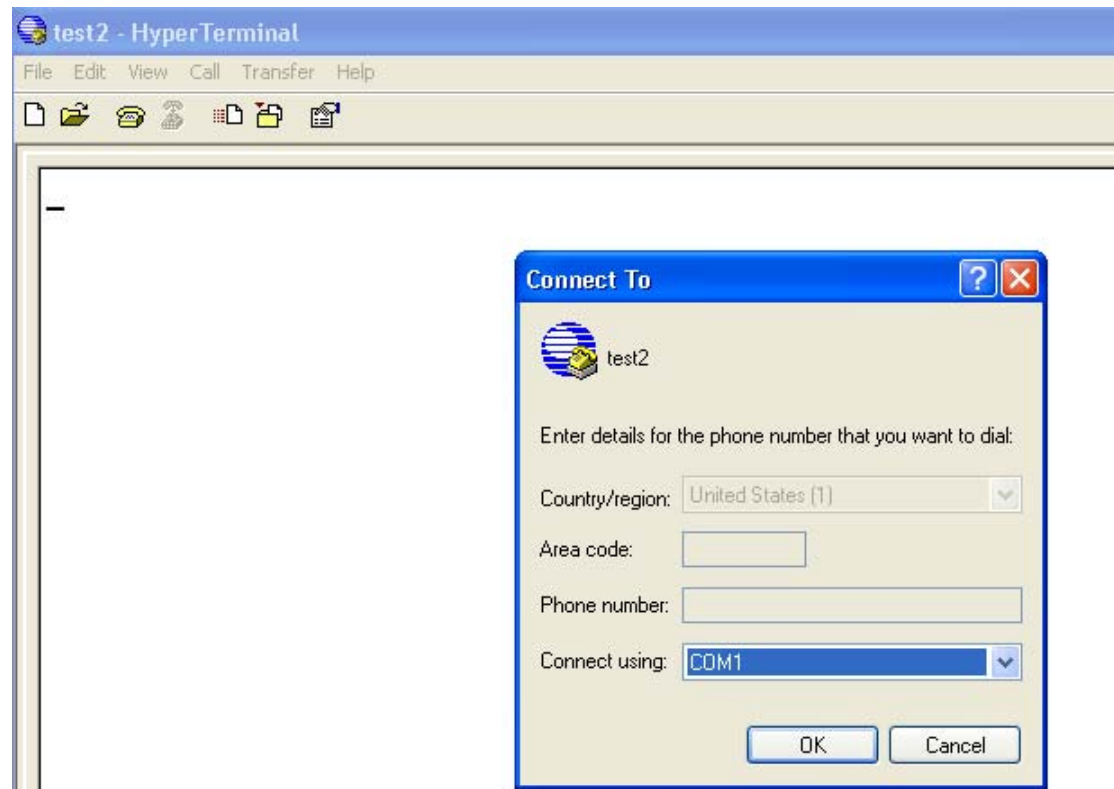

Figure B.2 Connect To Window
4. The Connect To dialog box appears. See Figure B.2.